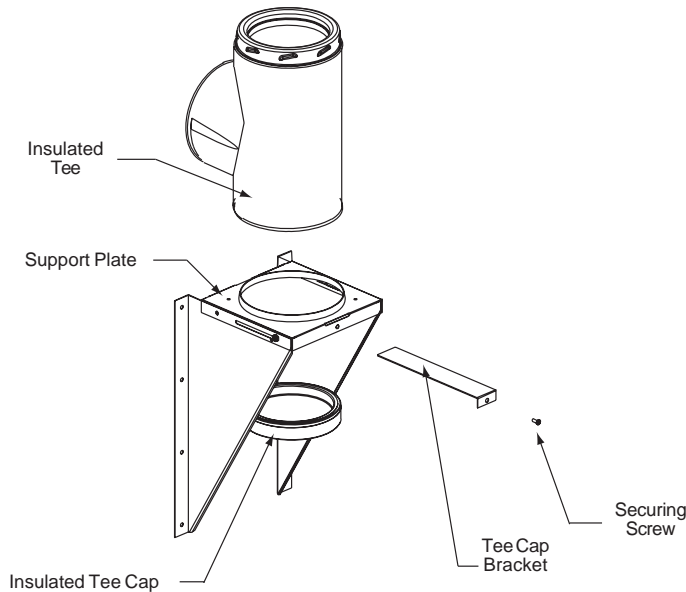

FIGURE 15 - Explosion View - Wall Support, Insulated Tee and Tee Cap, Tee Cap Bracket and securing Screw.
12. Place the Insulated Tee on the support Plate ensuring that the male coupler of the Tee is facing up and the flange on the top of the Support Plate slides into the female coupler (see Figures 15 & 16).
15. Insert and install the Insulated Tee Cap into the bottom of the Support Plate opening. To secure, slide the Tee Cap Bracket into both slots located at the front and rear of the Support Plate. Make sure the Tee Cap Bracket is beneath the Tee Cap and the other end is exiting through the slot at the back of the Support Plate. Secure in place by threading the securing screw into the nutsert located on the front of the Support Plate (see Figures 15, 16 and 17).